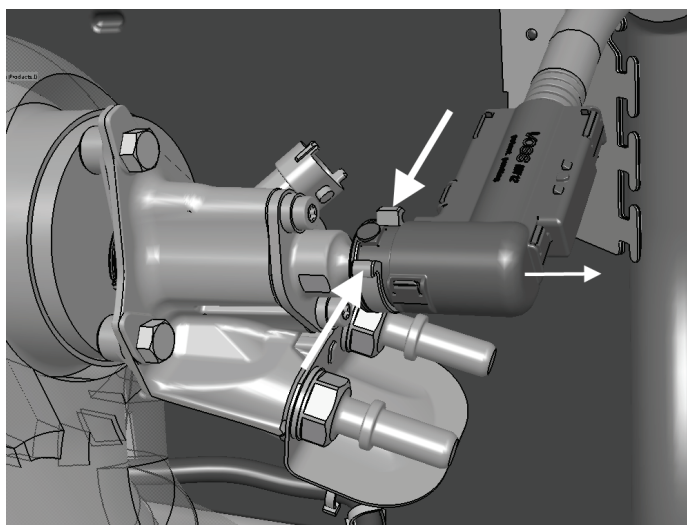

Figure 5
5. Depress yellow buttons to release quick coupling. (Fig. 5)